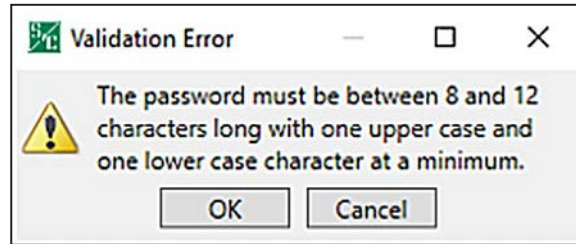

Figure 119. The Validation Error dialog box.
STEP 6. If the password was not successfully validated, the Validation Error dialog box will open. See Figure 119 on page 224. Click on the **OK** button to attempt to change the password again. Go to Step 3 on page 222.